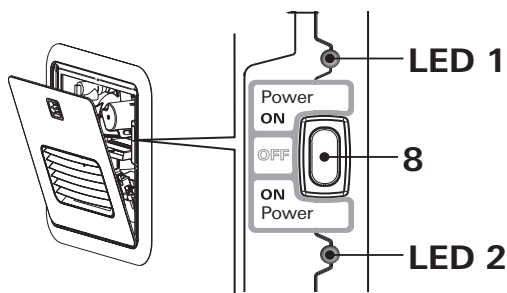

Fig. 8
2. To switch on the appliance, switch the POWER switch (Fig. 8 – 8) to one of the two “ON” positions.
- When the green power ON LED 1 (Fig. 8 – LED 1) is lit, the appliance is switched on.
- If the red error code LED 2 (Fig. 8 – LED 2) is lit / flashes, there is a fault or warning. Refer to “APPENDIX A – Error Codes” on page 37).
3. Switch off the appliance at the POWER switch (Fig. 8).
- The green Power-ON LED 1 (Fig. 8) extinguishes.